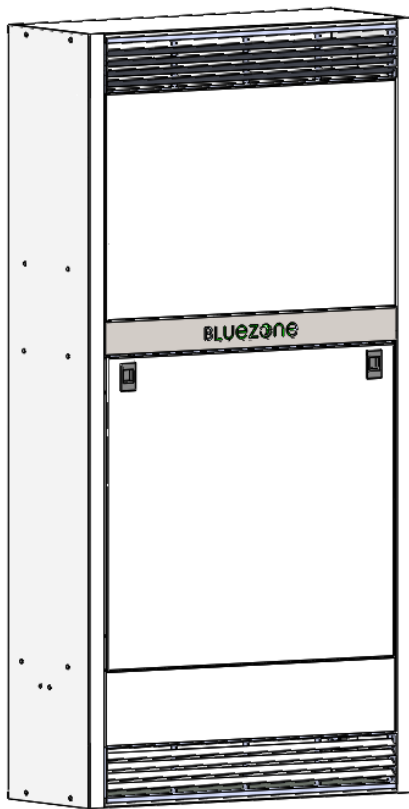

Figure 23: Install Service Cover
- 12) Replace cover back onto the unit. See Figure 23.